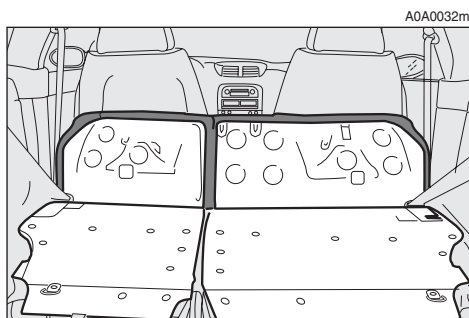

fig. 26
- across between the front seat backs and the tilted cushions of the rear seats when the luggage compartment is completely extended (see **fig. 26**).
- raise the levers (**A-fig. 25**) retaining the back rests and tilt them forwards to obtain a single loading surface (**fig. 26**).